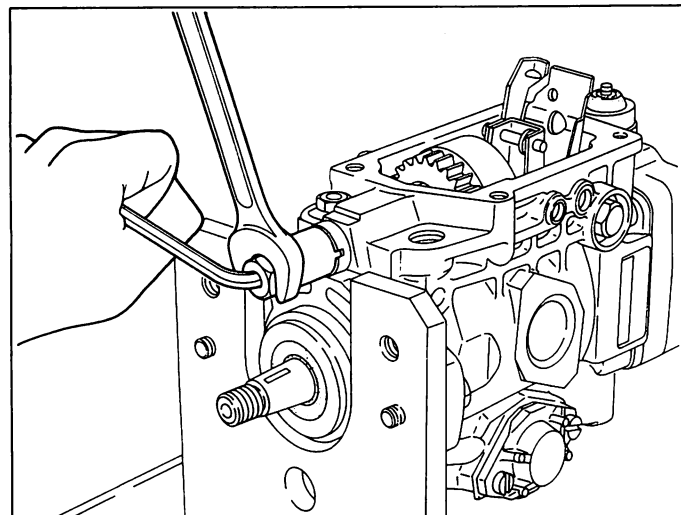

Fig. 85 Securing the governor shaft
- Fix the governor shaft (108) by tightening the nut (107) using the adjusting device (157915-2620). (Fig. 85)